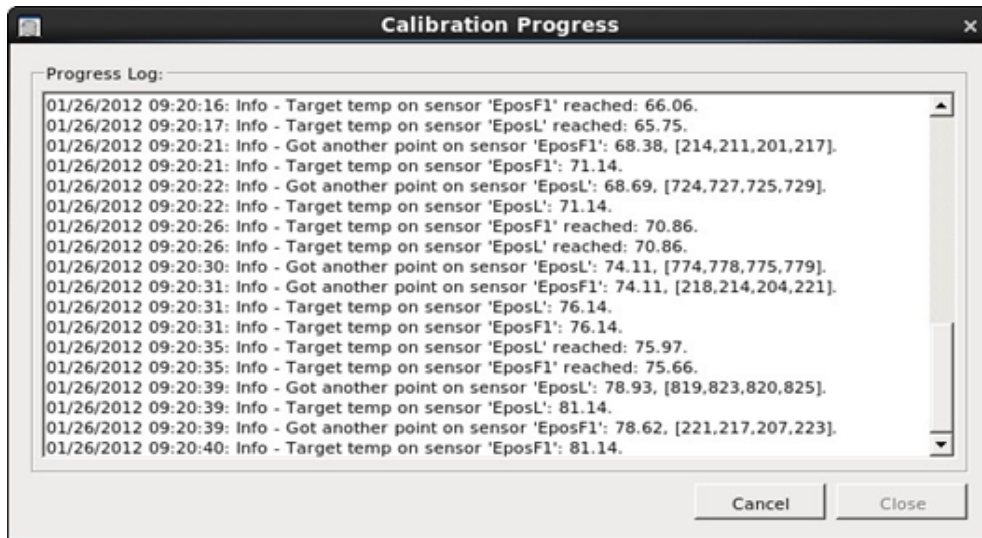

Figure 2 - Log window after starting post calibration
- 2.4 A log window opens, in which you can monitor the calibration process. See Figure 2.